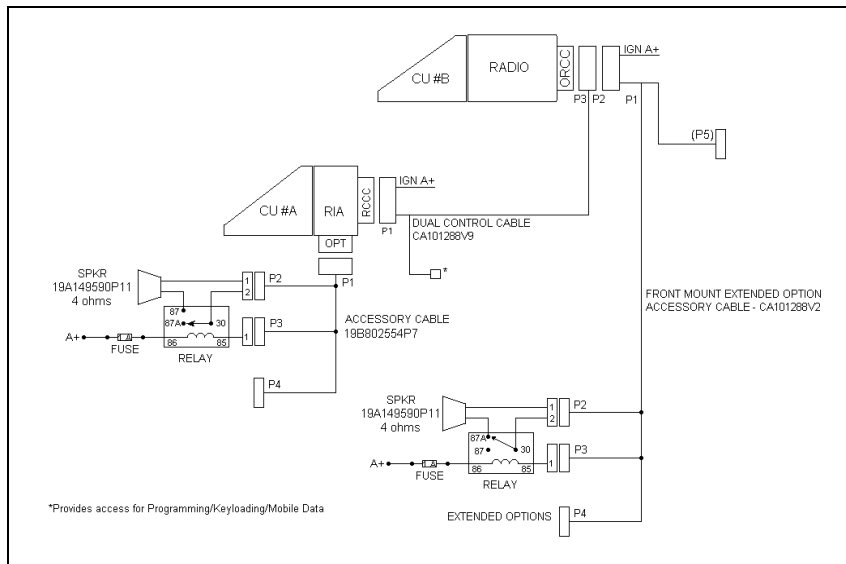

Figure 24 – M7100^{IP} Dual Control Unit Front Mount/Remote Mount Installation Configuration
1. Referring to Figure 24, run the Dual Control Cable (19B802554P9) between locations for the Radio Unit and Auxiliary Control Unit. Be sure to locate the P2/P3 connector assembly at the Radio Unit.
- B. Hardwire each speaker directly (without relays) as shown in Figure 24.
9. Radio Unit Speaker: Connect the lead nearest the speaker to Pin 87A of the relay. Connect the lead nearest the connector to Pin 30 of the relay. Connect the connector to the Accessory Cable P2 (Refer to Figure 24).
10. Auxiliary Control Unit Speaker: Connect the lead nearest the speaker to Pin 87 of the relay. Connect the lead nearest the connector to Pin 30 of the relay. Connect the connector to the Accessory Cable P2 (Refer to Figure 24).
11. For each relay: Connect a #18 AWG black wire between the relay, Pin 85 and Accessory Cable P3-1 (labeled “OUT2” on the schematic diagrams in the service manual). Use a 1/4” tab receptacle on the relay side and mating Molex connector and pins on the accessory cable side. Connect the mating Molex connector to the Accessory Cable P3 when finished (Refer to Figure 24).
12. For each relay: Connect a #18 AWG red wire to the relay, Pin 86. Cut to length, and connect to the 1A fuse holder (supplied). Use crimp on connectors supplied. Connect the other side of the 1 amp fuse holder to A+ battery source or vehicle A+ fuse block. Use #18 AWG red wire and ring lug supplied, if needed (see Figure 24).